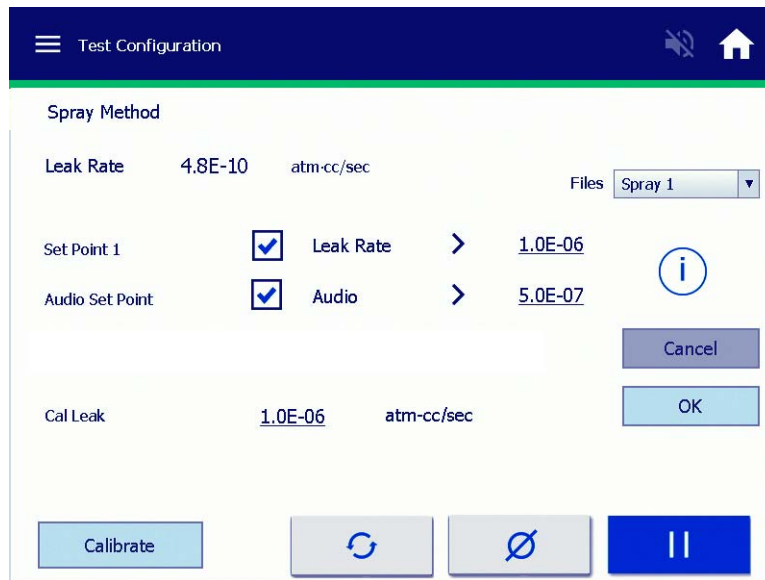

Figure 5-9 Spray Method
2. Select **Spray Method** and press **Set-Up** and Figure 5-9 appears.